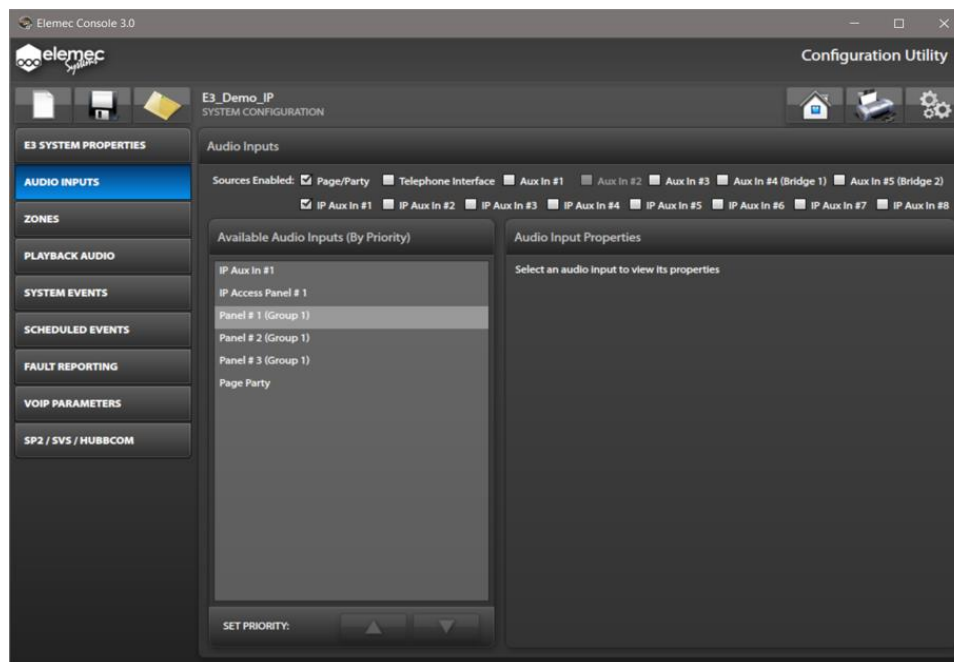

Figure 75. Audio Inputs Configuration
**NOTE:** Aux #2 is only available if insert one is not enabled. Aux #3 is only available if insert two is not enabled. Aux #4 and Aux #5 are only available in stand-alone systems. In the figure shown (see Figure 75), INSERT 1 is enabled on the SYSTEM PROPERTIES screen, which disables AUX IN #2 here.